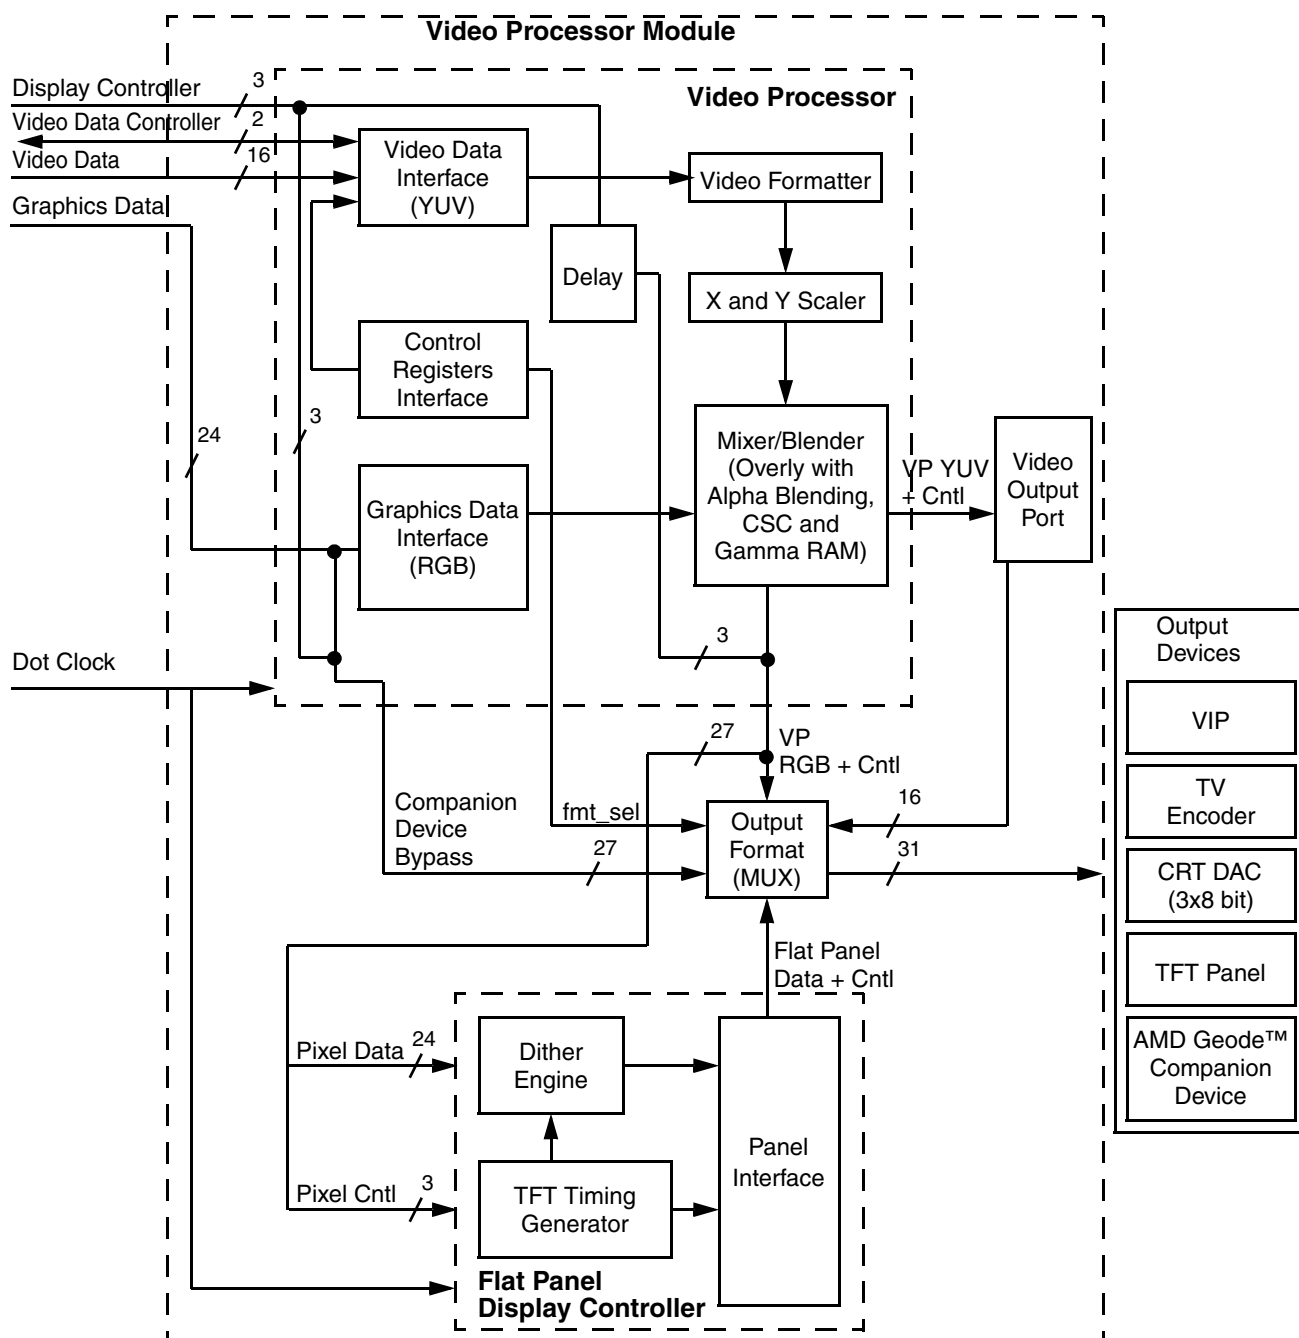

Figure 6-23. Video Processor Block Diagram
The Video Processor (VP) module provides a high-performance, low-power CRT/TFT display or video output interface. There are three main functions contained within the VP: the Video Processor, the TFT controller, and the video output port (VOP). The scaling, filtering, and color space conversion algorithms implemented in the VP are of much higher quality than those used in software-only video playback systems. The VP is capable of delivering high-resolution and true-color graphics. It can also overlay or blend a scaled true-color video image on the graphic background. For video input, integrated scaling, and X and Y interpolation, enable real-time motion video output. The video path of the VP also contains horizontal and vertical scaling hardware, and an optional YUV-to-RGB color space converter. This motion video acceleration circuitry is integrated into the Video Processor to improve video playback. By off-loading these arithmetic-intensive tasks from the processor, 30 frame-per-second playback can be easily achieved, while keeping processor utilization to acceptable performance levels. The graphics and video path is illustrated in Figure 6-23 on page 389.
The Video Processor module contains the following functional blocks. (Figure 6-23 on page 389 shows the relationships between these blocks):